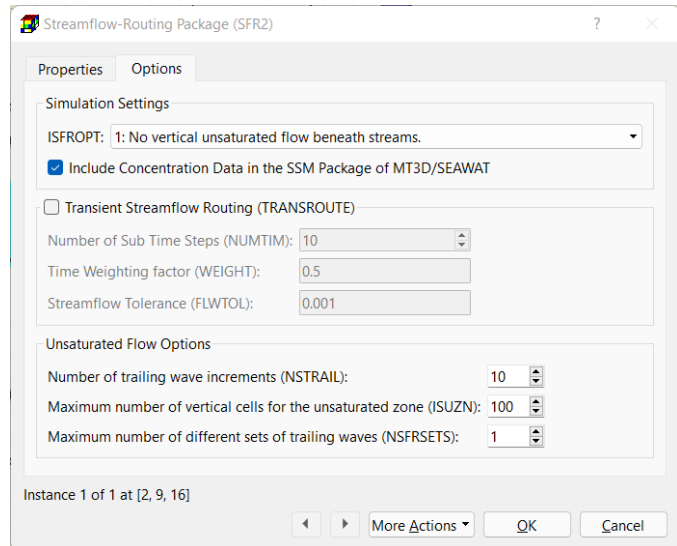

Figure 83. The Options tab of the Streamflow-Routing Package (SFR2) dialog box
1. All input methods: The data-entry dialog boxes of all input methods contain an Options tab (Figure 83) with the following common data.